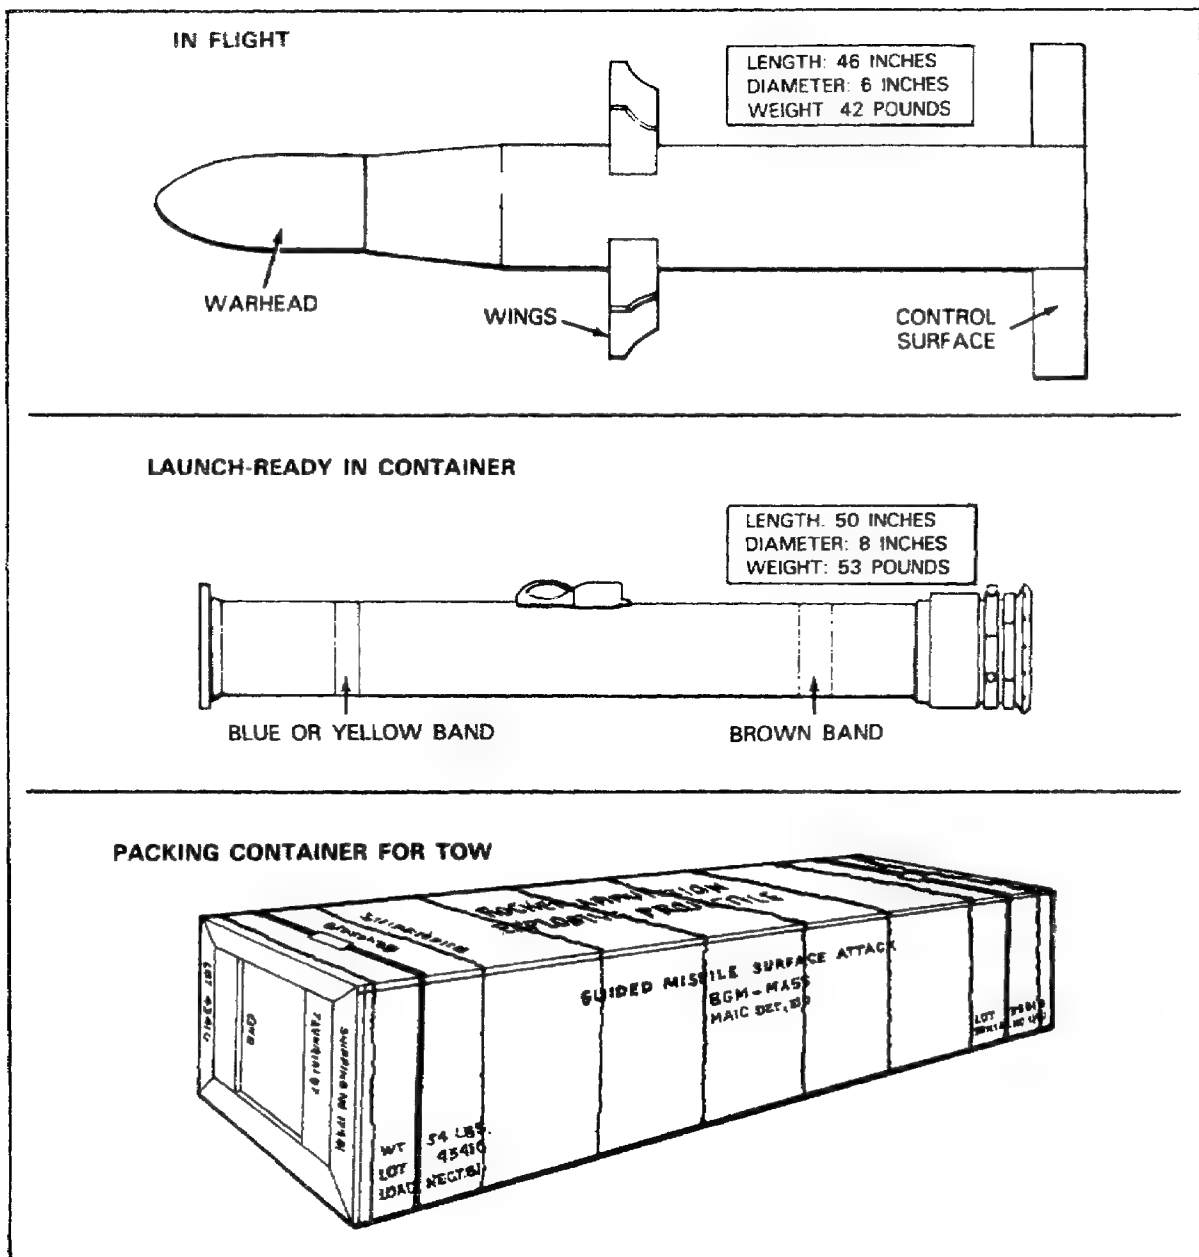

Figure 77. TOW ATGM Weapon.
**TOW.** The TOW (tube-launched, optically-tracked, wire-guided missile) is a heavy antitank and assault weapon with a range of approximately 3,000 meters. See Figure 77. Like the Dragon, a complete TOW round consists of a missile sealed inside a disposable launch tube. The rest of the launching system